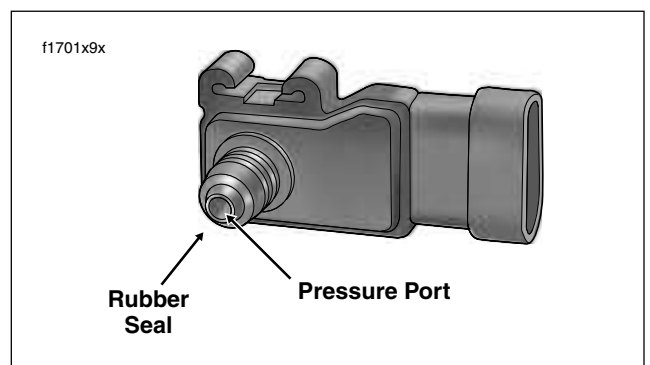

Figure 9-34. MAP Sensor
3. Pull pressure port on MAP sensor from hole in induction module. See Figure 9-34.
1. Inspect rubber seal on pressure port for cuts, tears or signs of deterioration. Install **new** rubber seal if necessary. See Figure 9-34.